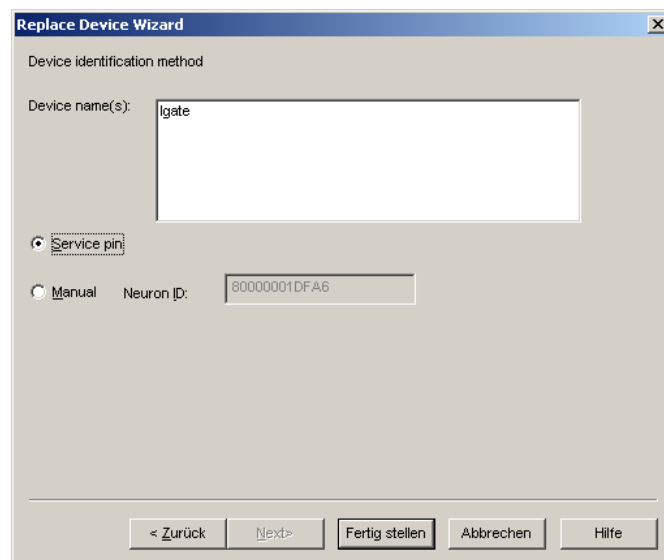

Figure 69: Select Service Pin and click Finish.
6. Select the **Service pin** method and click on **Finish** as shown in Figure 69.